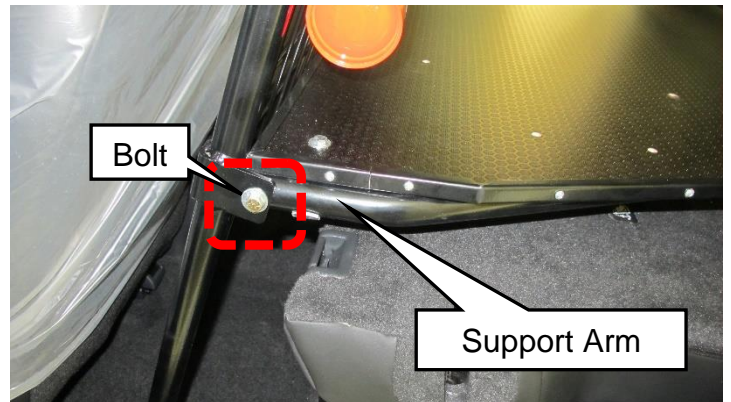

Figure 19
17. Install the support arm to partition mount bolts/washers and nuts on both sides (Figures 19 and 20).